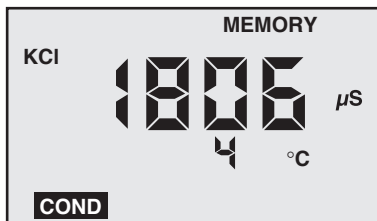

Figure 6
2. “**MEMORY**” will appear and the temperature display will be momentarily replaced by a number (1-20) showing the position of the record. Figure 6 shows a reading of 1806  $\mu\text{S}$  stored in memory record #4.